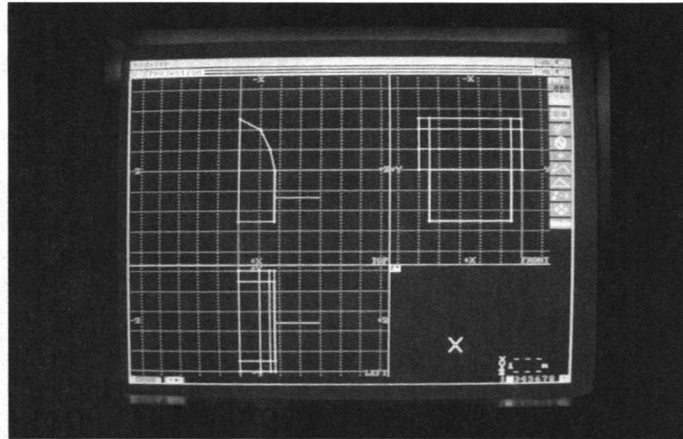

Fig. 3.11: The barn with walls selected.
- You're screen should look like **Fig. 3.11**.